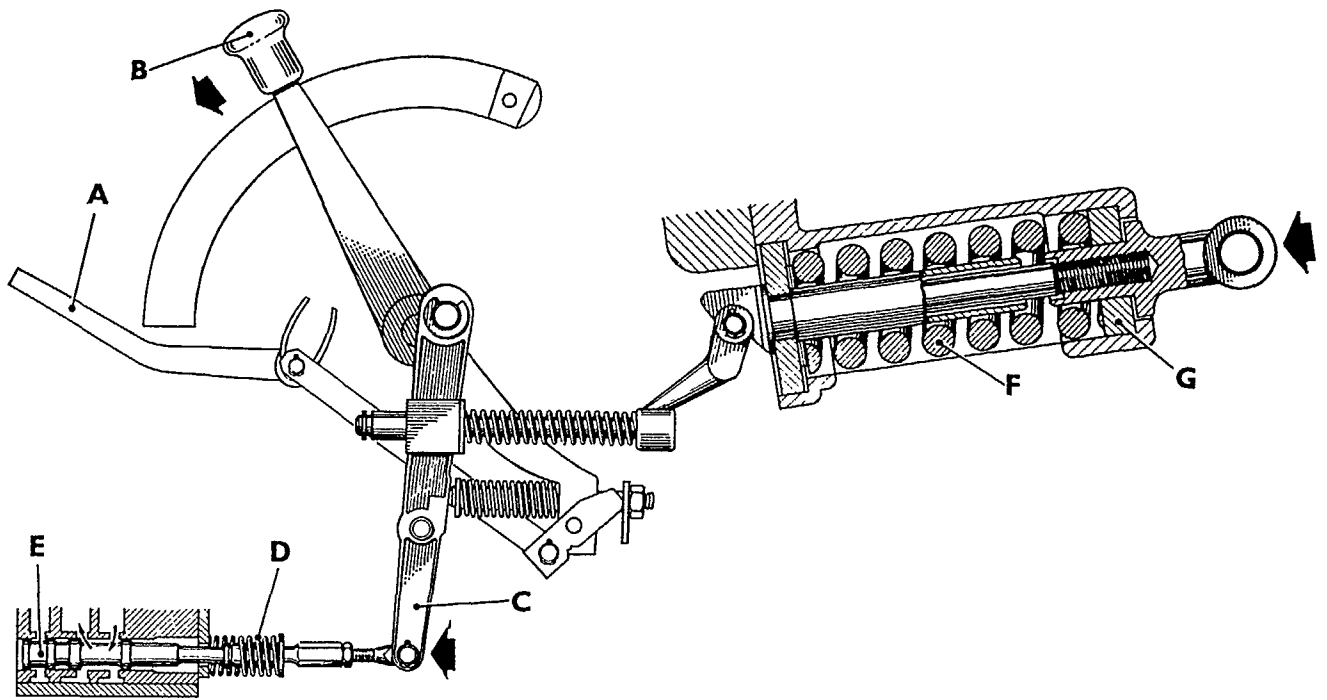

Figure 6
1. An increase in draft will produce a decrease in tension, in the top link, Figure 6, allowing the draft control main spring 'F' to expand in a forward direction pushing the draft control linkage and actuating lever 'C' forward. This moves the control valve 'E' into the raising position.